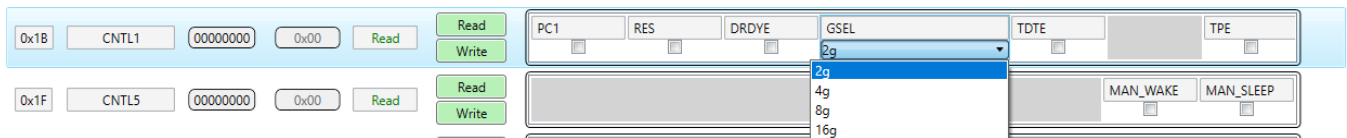

Figure 41 Binary and enumerated values in the register editor
- Binary values are shown as check boxes. (Figure 41)
- Enumerated values are shown as pull-down menus. (Figure 41)